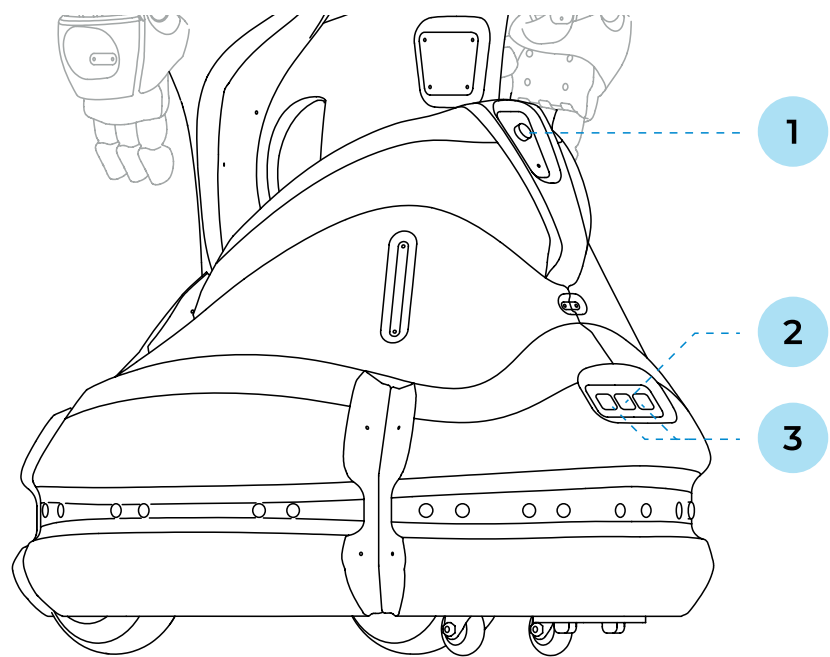

Fig.2.8. Promobot V.4. robot, main components of the movement platform (back view)
Safe autonomous movement is realized by obstacle detection sensors. If the robot is equipped with a lidar and a constructed map of the room, it can move to specified points on the map. The robot independently detects the charging station with the help of a special camera and is automatically directed to it when recharging is necessary. The composition of the movement platform is shown in Figures 2.8, 2.9 and 2.10.
- 2. The robot can be charged using the cable supplied with the robot. Connect the charging cable to the battery **charging port** shown in Figure 2.8. For more information on how to charge the robot, please refer to section 5.4 of this guide.